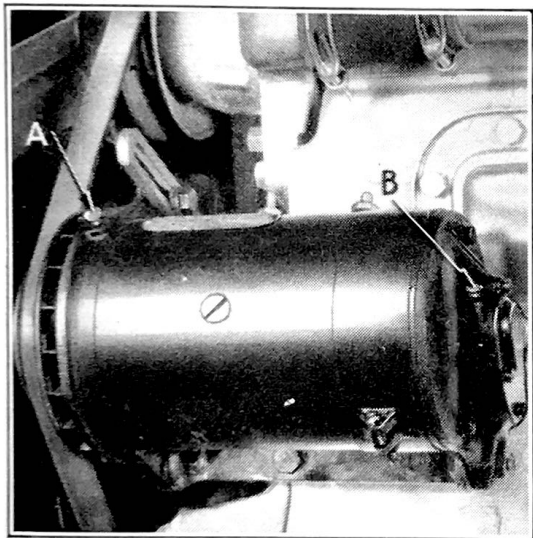

Figure 21
Generators are of the high output fully ventilated type with third brush adjustment and voltage regulation. See Fig. 21.
Lubrication is provided through two oilers, one located at the front of the generator (A), Fig. 21, and (B) at the rear. A few drops of light engine oil should be placed in the oilers every 2,000 miles. *Avoid over-oiling.*